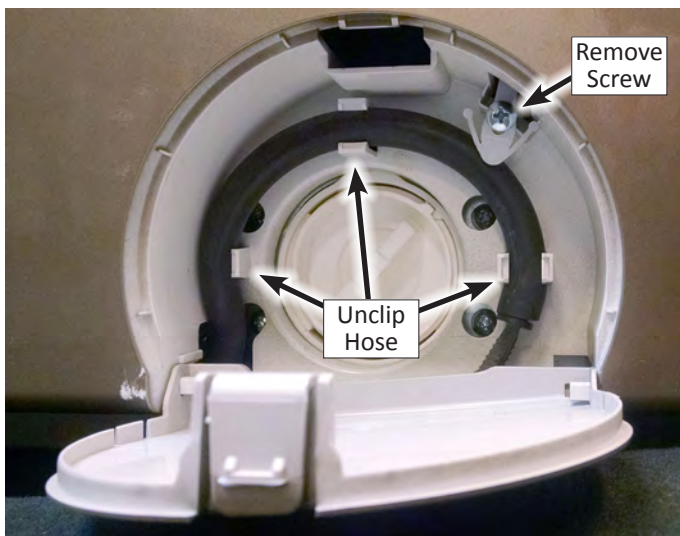

Figure 1
7. Using a Phillips screwdriver, remove the eleven (11) remaining screws indicated in Figure 1.